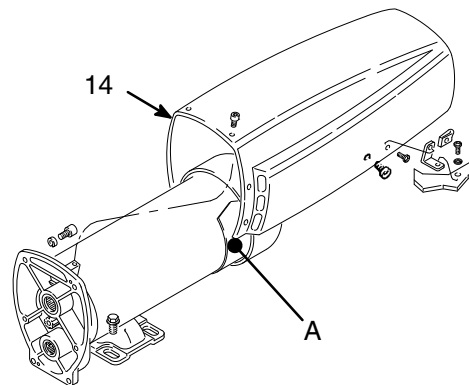

Fig 7
2. Remove motor cover (14) and both brush inspection covers (A). See Fig 7.